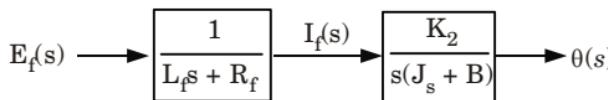

Fig. 15.
8. Block diagram is shown in Fig. 15.